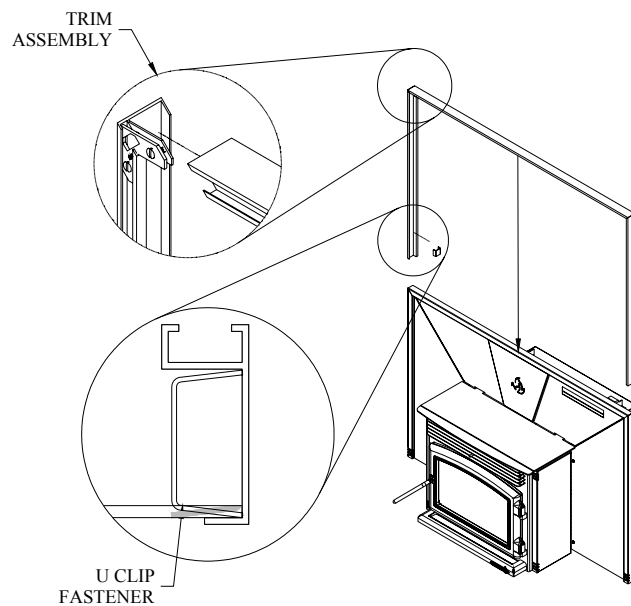

Figure 33
- 8- Assemble the trim kit corners with L brackets and slide it down on the faceplate as shown in Figure 33. Use the U clip fasteners to attach the trims to the faceplate.